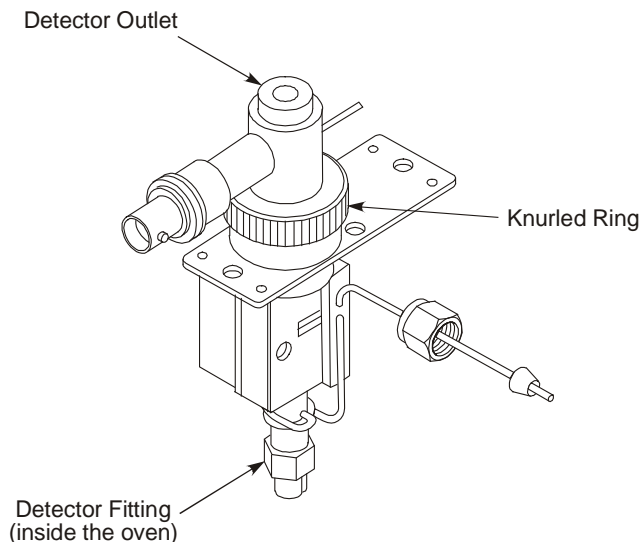

Figure 56. ECD surfaces to wipe.
1. Remove the polarizing voltage wire from the polarizing pin (Figure 56).